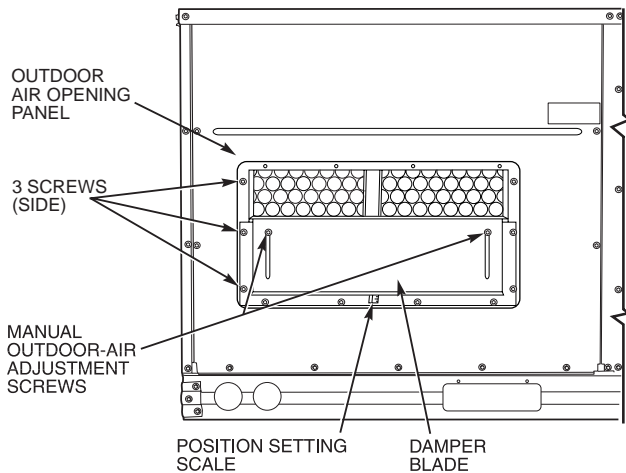
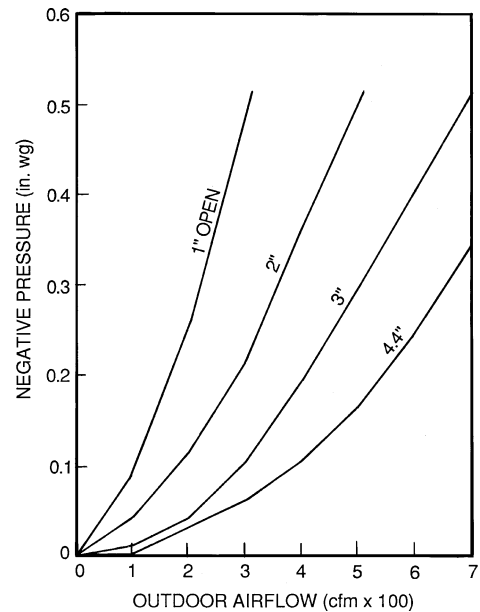

Fig. 12 — Damper Panel with Manual Outdoor-Air Damper Installed
Fig. 15 — Position Setting
2. Remove and save outdoor air opening panel and screws. See Fig. 12.
8. Adjust minimum position setting of the damper blade by adjusting the manual outdoor-air adjustment screws on the front of the damper blade. See Fig. 12. Slide blade vertically until it is in the appropriate position determined by Fig. 15. Tighten screws.